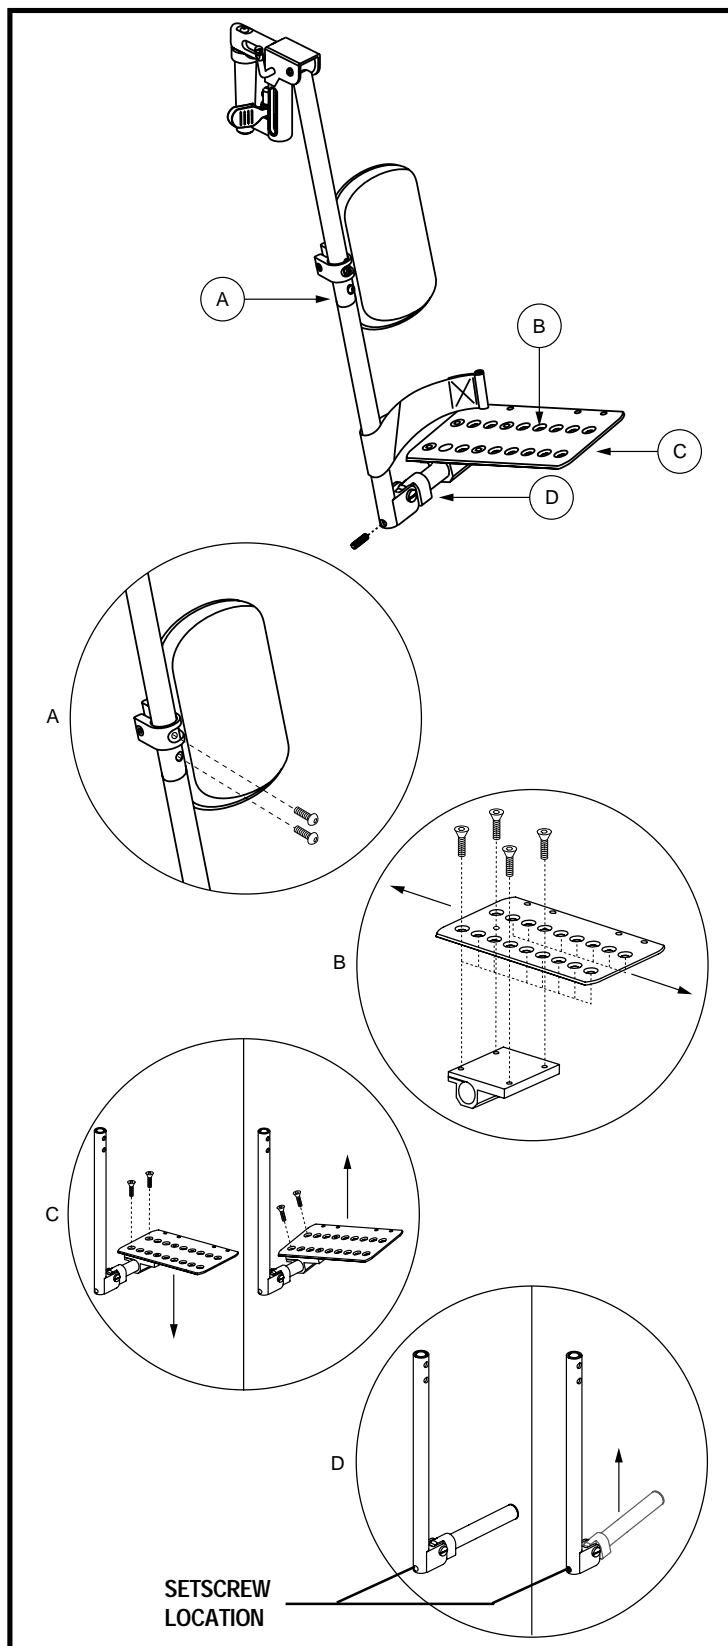

Figure 30. Multi-Axis Foot Plate
The multi-axis foot plate assembly can be installed on either a swing-away footrest or an elevating leg rest. The multi-axis foot plate has four adjustments: leg rest length (A), position (B), tilt (C), and angle (D). See figure 30.